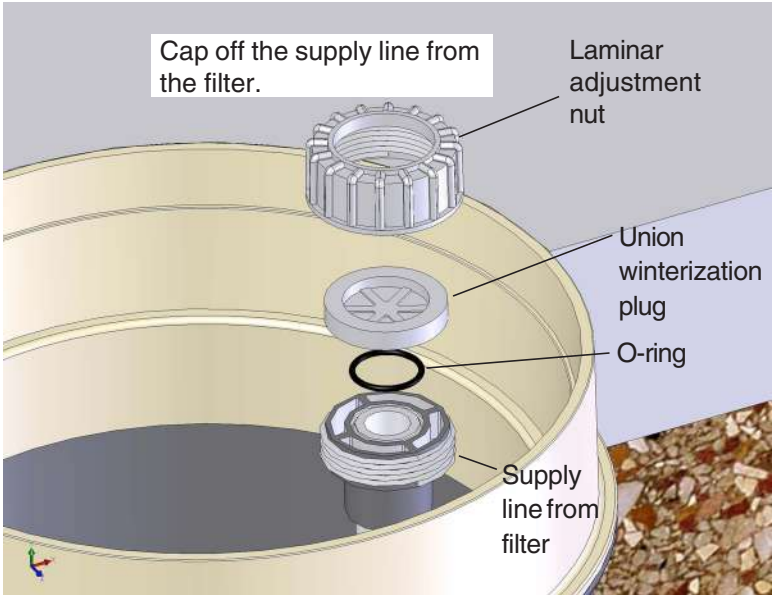

Figure 6
7. Use the union nut and plug to cap off the supply line from the filter (Figure 6).